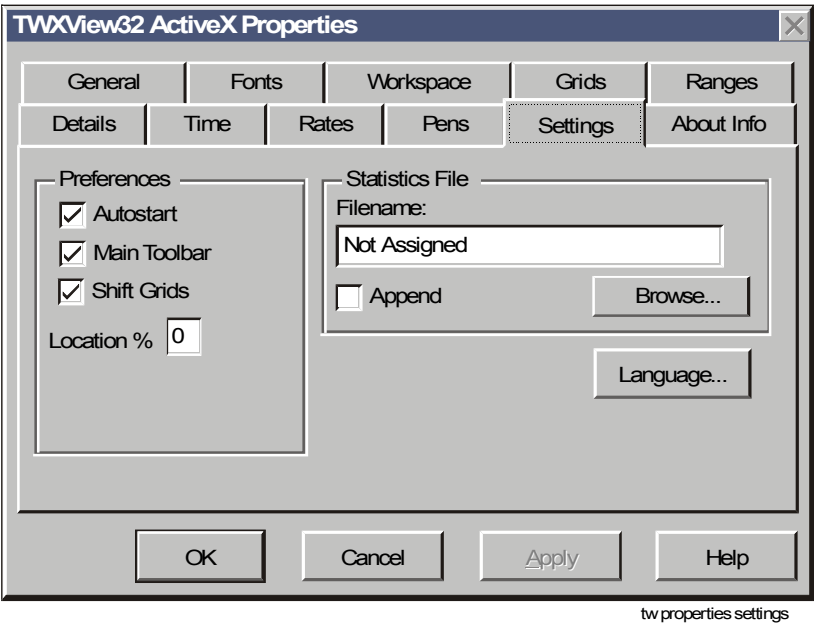

Figure 14-15: TWXView32 ActiveX Properties Dialog Box: Settings Tab
2. Select the Settings tab (Figure 14-15).